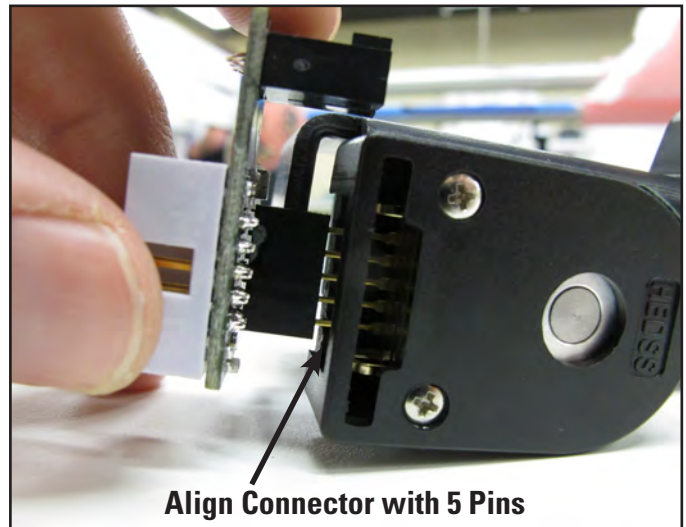

Figure 3.12
4. Align the new Y-Encoder circuit board (*Page 3.3, C*) so the five pins on the encoder fit into the 5-pin connector on the circuit board (**Figure 3.12**) and gently push into position. The screw hole on the circuit board should match up with the hole in the encoder housing.